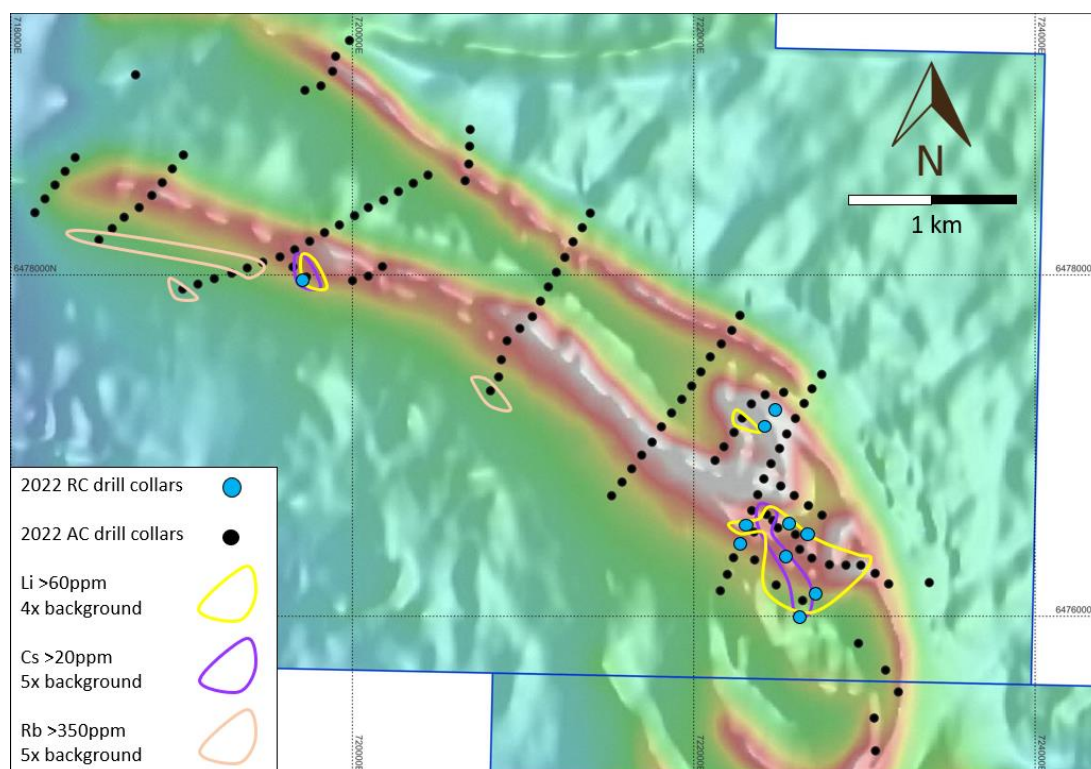

Figure 2: September RC drill collars over lithium, caesium and rubidium halos identified in aircore drilling.
Coherent halos of elevated lithium and other pegmatite-associated elements (caesium and rubidium) on the margins of greenstone units were identified in Sipa's March 2022 drilling (Figure 2, ASX Announcement 27 May 2022). In September these locations were further tested by deeper reverse circulation (RC) drilling, which intersected predominantly mafic units with several garnet-bearing quartz veins (Figure 2).